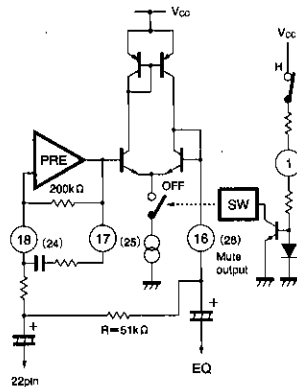

Fig. 26
In applications that use a directly connected output coupling capacitor, connect a resistor as shown in the circuit diagram in Fig. 26 to reduce the pre-mute switching noise described in (3) above.